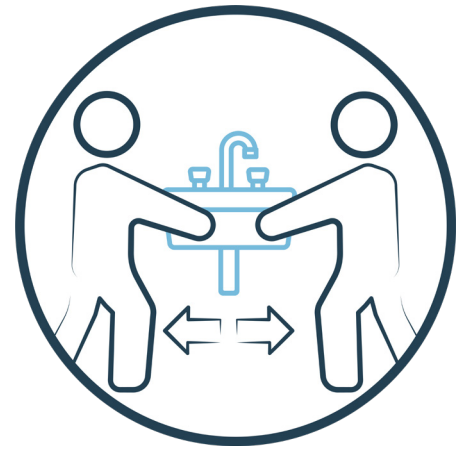

Figure 1 - Identifying mounting frame fixing hole positions
- 1) Place the frame in situ and mark the fixing holes for drilling. Put in the appropriate fixings if they are required at this point e.g rawl plugs (refer to figure 1).